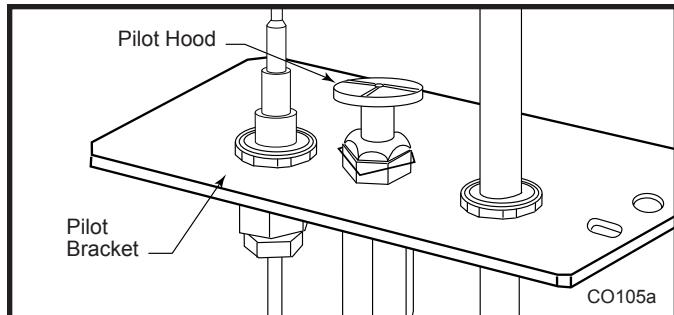

Fig. 78 Remove pilot hood.
4. Remove pilot orifice with Allen wrench. (Fig. 78)